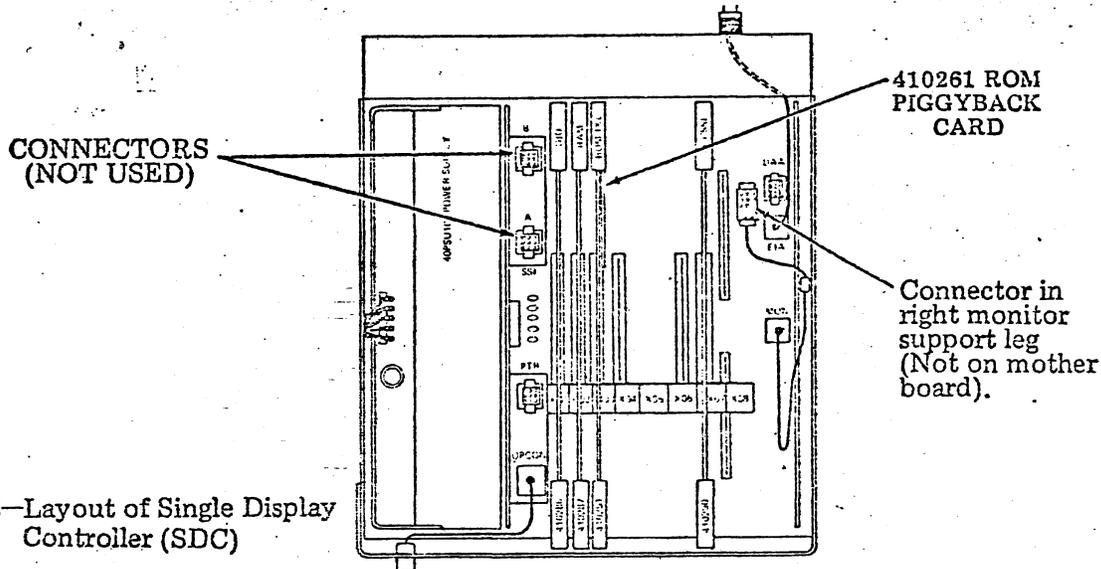

Fig. 3—Layout of Single Display Controller (SDC)
3.04 The options introduced in EL4084 and Supplements 1, 2, and 4 are retained. Options 407-411 are added and apply to all DATASPEED 40/4 Stations (see Table). The controller options are installed in the SDC by the installer using the opcon in a special mode that is not accessible by an operator. The mode switch is entered by depressing the controller SELF-TEST switch. The currently selected options are displayed on the monitor. Depression of an appropriate opcon keytop when the cursor is in a given location causes the desired option to be entered. The controller is returned to the operating mode by depressing the LOCAL (or RESET) key on the opcon. The installation method is given in Section 582-200-201, Issue 2. Circuit card switch positions are not used to install options. Fig. 3 shows the SDC layout.